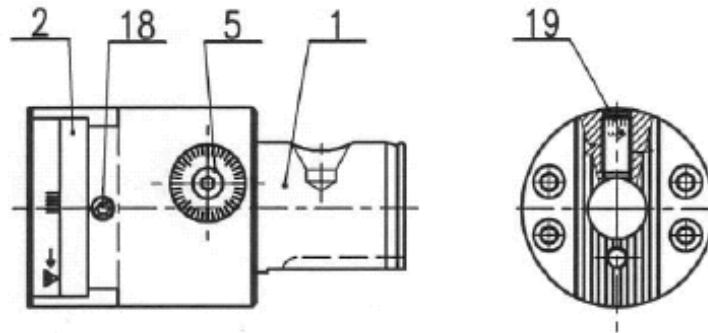

Fig. 1
- 1.4 Do not start the machine spindle unless you check that slide arresting screw is tight. (Pos.18 on the Fig. 1)
The scale of dial screw (Pos.5) and guideline on the body(Fig.1) are used for adjustment of the dimension. Maximum slide travel is 4,5 mm.